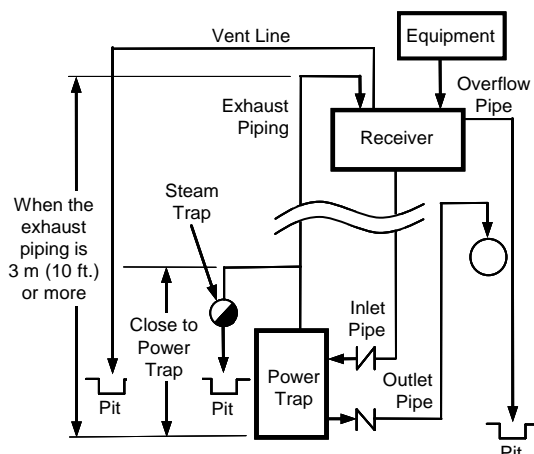

Figure 1: Open Systems
(4) Exhaust Piping:
- (a) **For Open Systems only:** Add a float-type steam trap to the exhaust pipe at a point just above where the exhaust pipe exits the unit body. (Figure 1)